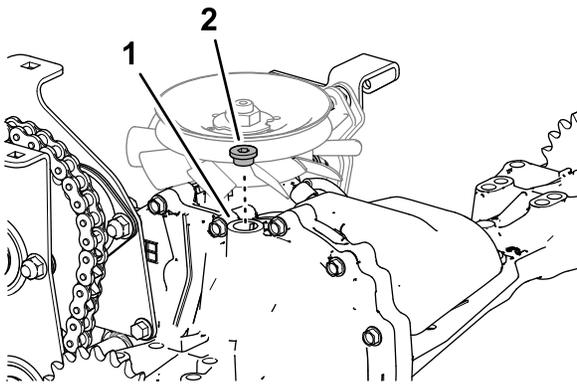

Figure 57
- Remove the plug from the side-housing port (Figure 57).